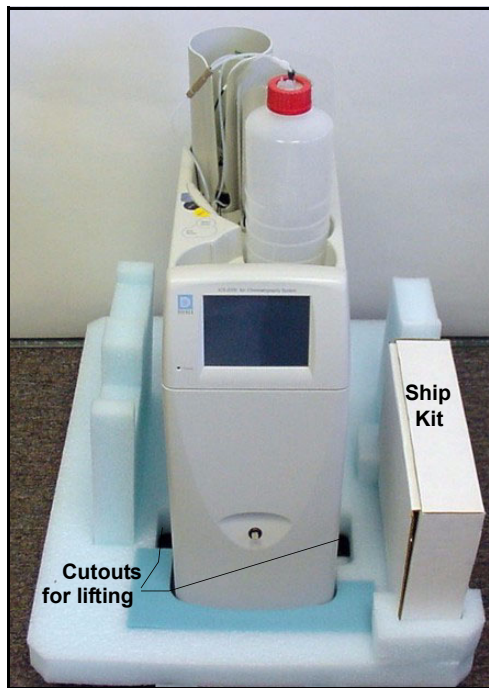

Figure 3. ICS-2000 with Ship Kit
4. Remove the next layer of foam and remove the Ship Kit box (see Figure 3).
5. The bottom foam layer has two cutouts on either side of the ICS-2000 module; use these as hand holds when lifting the module (see Figure 3).